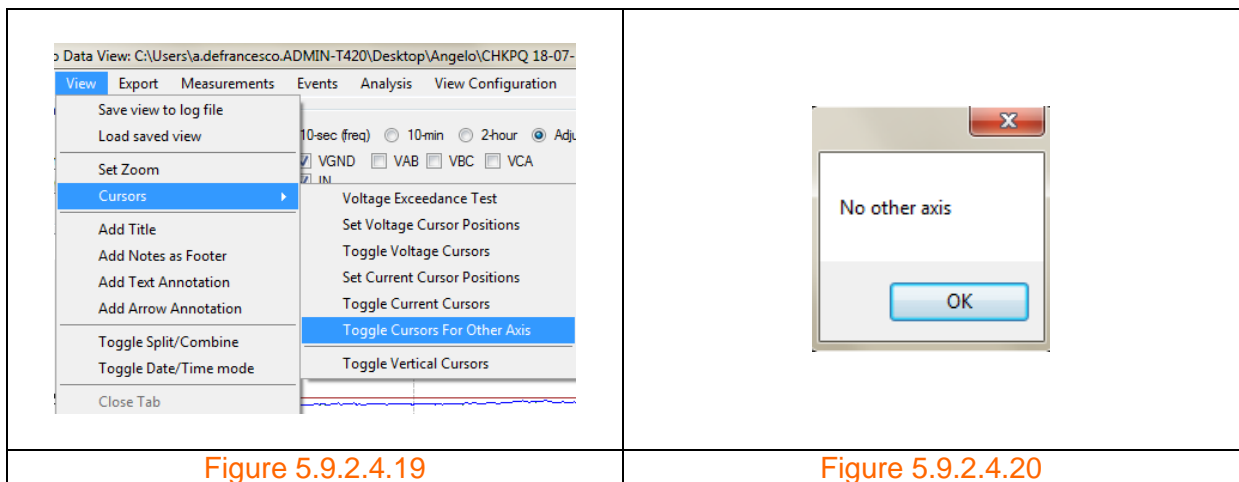

Figure 5.9.2.4.21 includes a frequency plot with its own set of cursors.
Step 1: Click the 'Toggle Cursors For Other Axis' button as shown in figure 5.9.2.4.19. A message box as shown in figure 5.9.2.4.20 appears if no mother axis available.
Step 2: Click the 'Toggle Cursors For Other Axis' button as shown in figure 5.9.2.4.19. The cursors for the frequency plot disappear.